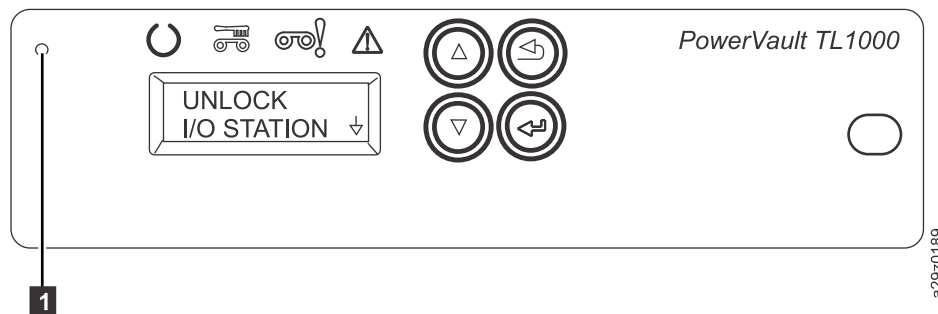

Figure 58. Cartridge magazine lock release access hole
1. On the front panel, locate the access hole for the cartridge magazine lock release mechanism to the left of the Operator Panel (1) in Figure 58 on page 116).